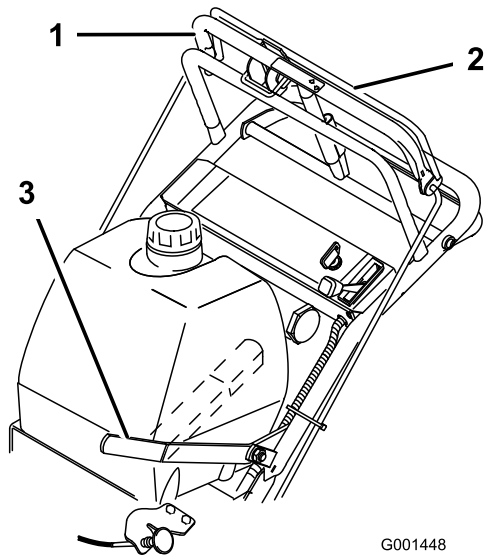

Figure 7
1. Squeeze the blade-control bail against the upper control bar (Figure 7).
Pull the blade-control lever (PTO) fully rearward (Figure 7).